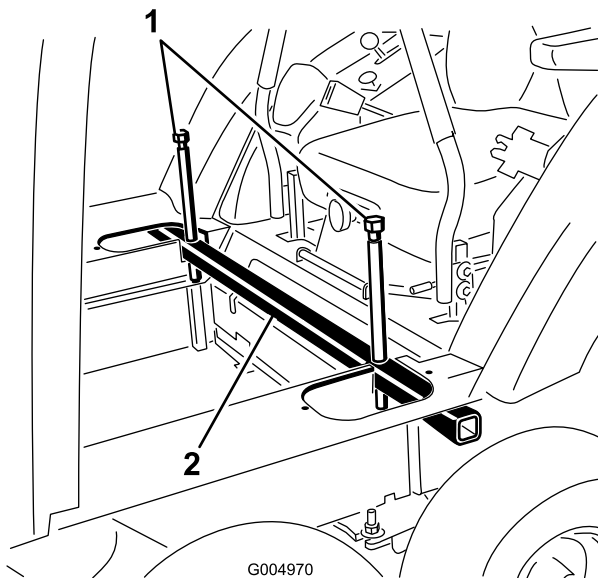

Figure 81
22. Install the cab jack tube into the cutouts in the cab floor (Figure 81). Tighten the jacking bolts until the tapered ends go through the hole in the floor plate and just contact the frame.